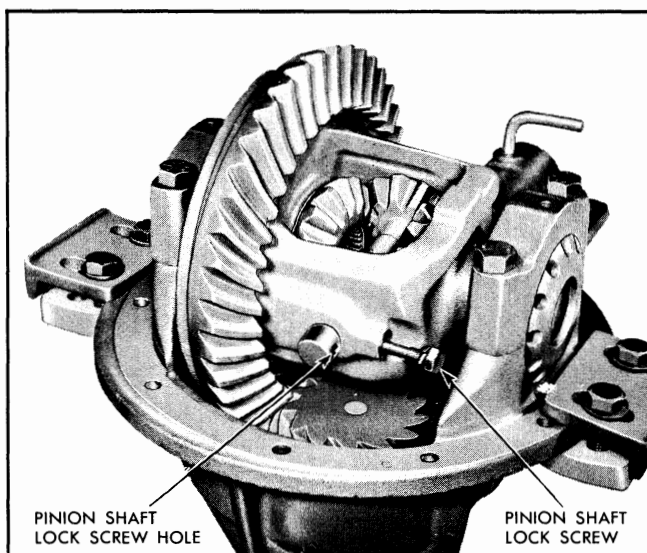

Fig. 4-59 Installing Pinion Shaft
24. Lubricate and install differential pinion shaft, lining up hole in shaft with lock screw (Fig. 4-59). Tighten pinion shaft lock screw to 10-20 ft. lbs. torque.